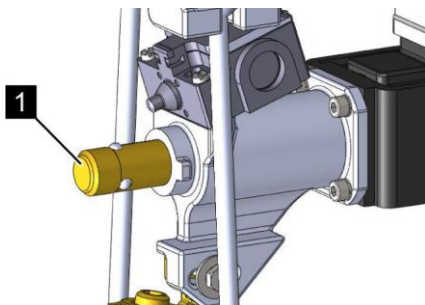

Fig. 151: Release pin
5. ➤ Check whether the release pin (Fig. 151/1) projects on the EM release device.